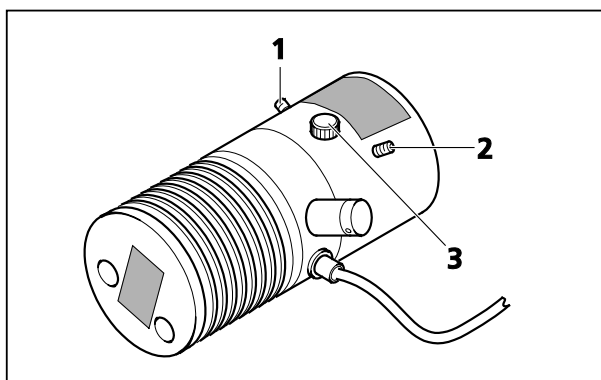

Fig. 3-20 Adjusting the VIS-LED Attachment Illuminator
- Remove the eyepiece. Use the adjusting screws (Fig. 3-20/1 and 2) to center the image of the illuminator in the pupil image.
- Use the focusing screw (Fig. 3-20/3) to ensure an optimized, even illumination of the pupil image.